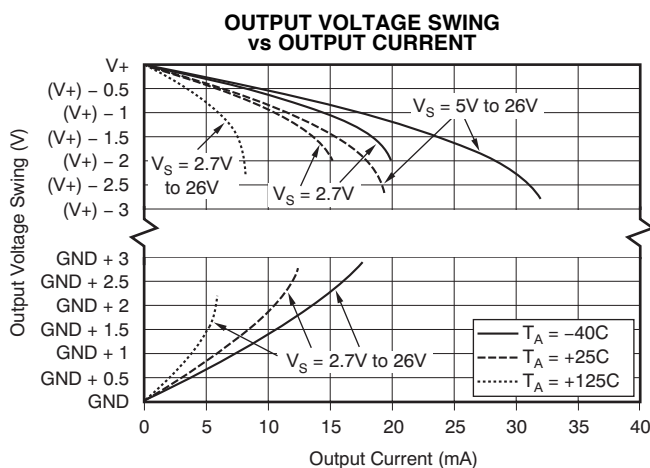

Figure 10.
(1) RTI = referred-to-input.
(2) See Typical Characteristic curve, *Output Voltage Swing vs Output Current* (Figure 10).